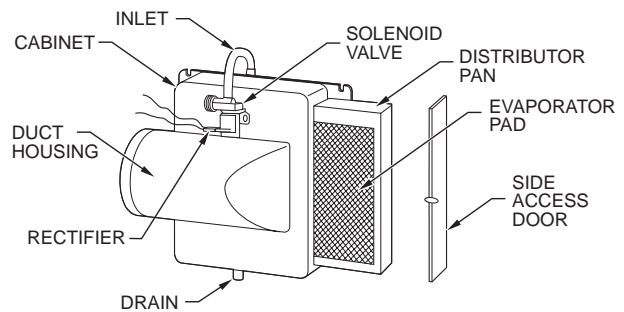

Fig. 7 — Humidifier Details — P110-SBP2017A
- On a P110-SBP2017A humidifier, gently pull the latch that secures the access door. Remove the door. Check to see if water is flowing from the solenoid valve into the evaporator pad. (See Fig. 7.)
- To disassemble a P110-SBP2017A humidifier, gently pull the latch that secures the access panel. Remove the door and slide the evaporator pad assembly out of the unit. (See Fig. 7.)